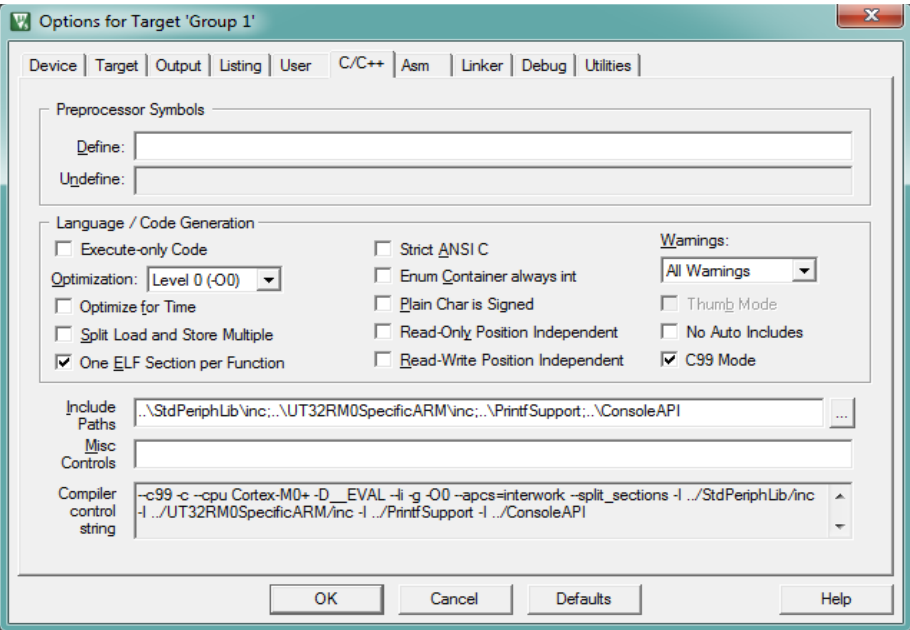
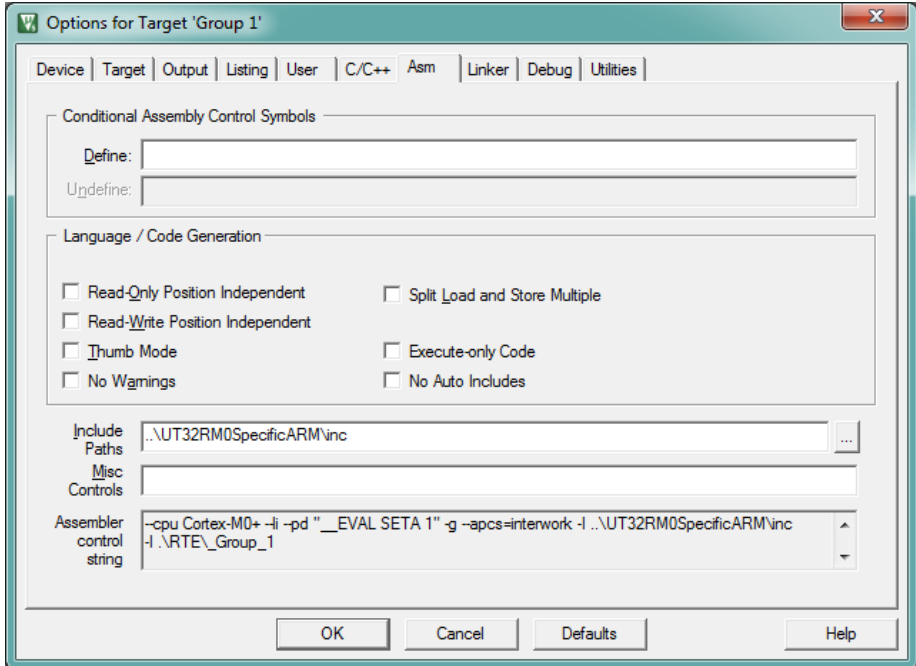

Figure 11: C/C++ Include Paths
Figure 12: ASM Include Paths
Change setting according to the particular project. For **C/C++** and **Asm** tabs, click  and setup the compiler include paths; see **Figure 11** and **Figure 12**. Leave the other tabs with defaults.
- 11) Start the debugger  and run  the application. Display the output using a Terminal, see **Figure 12**.